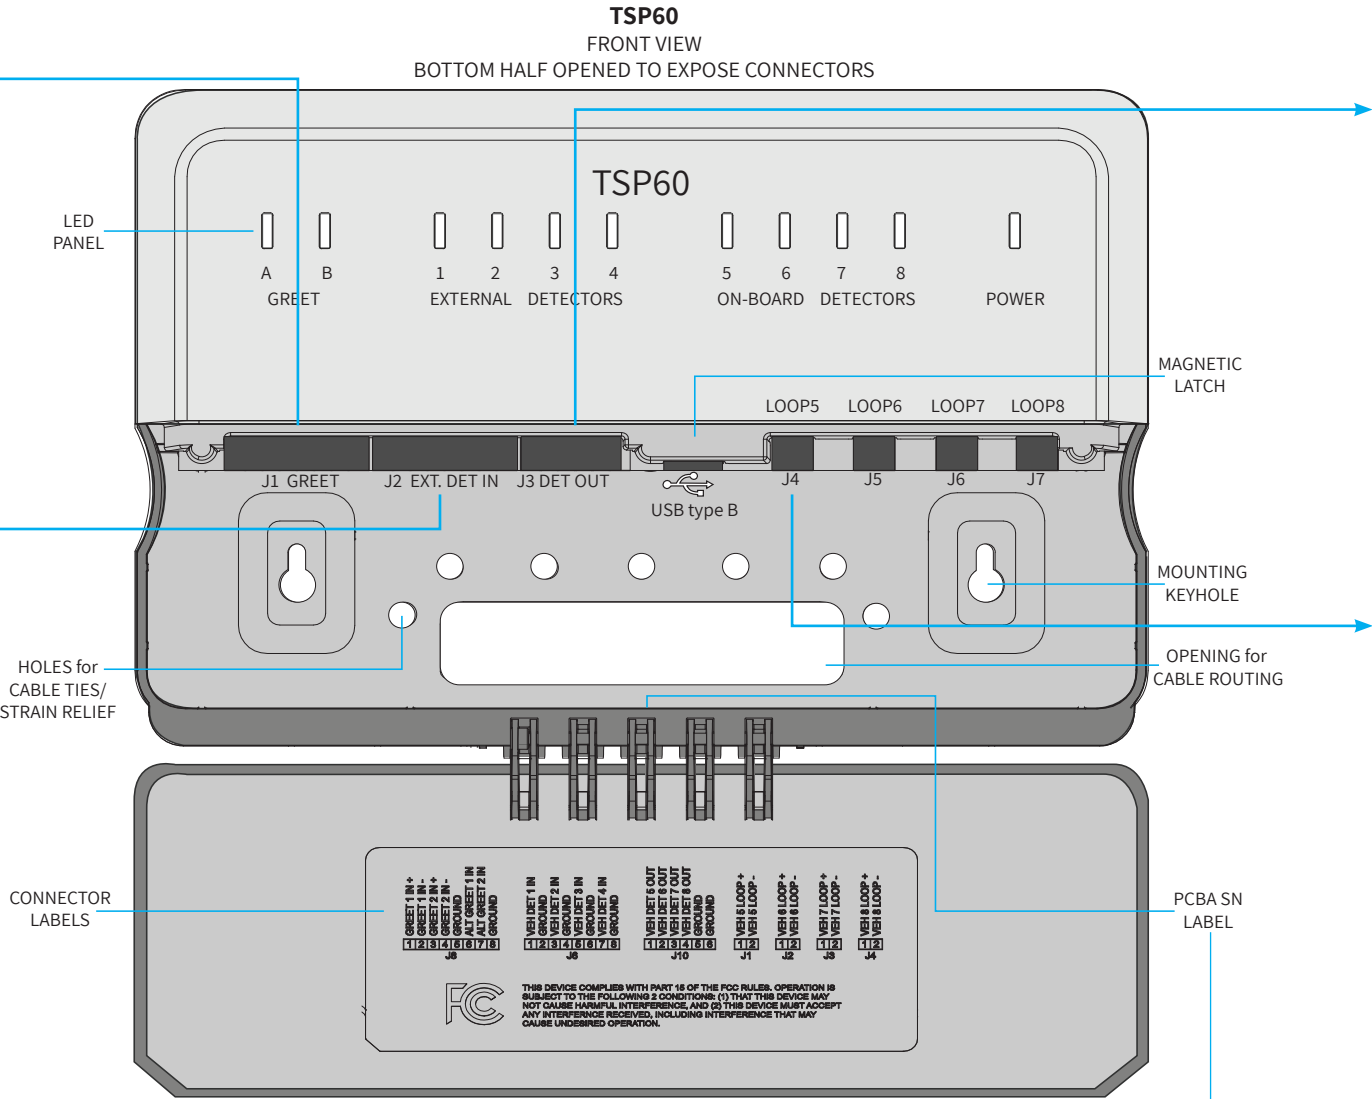

Fig. 3.1
- 11** Route and terminate component cables to the TSP60 through the opening on the rear housing. Refer to the TSP Wiring Connections and Fig. 3.1 on page 3 while following these next few steps.
- 13** When connecting a base station, choose one of the following steps: A, if connecting a NEXEO|H-DX™ Base Station to the TSP, or B, if connecting an EOS|HD® Base Station to the TSP. Also, refer to Fig. 3.1 wiring connections on page 3.